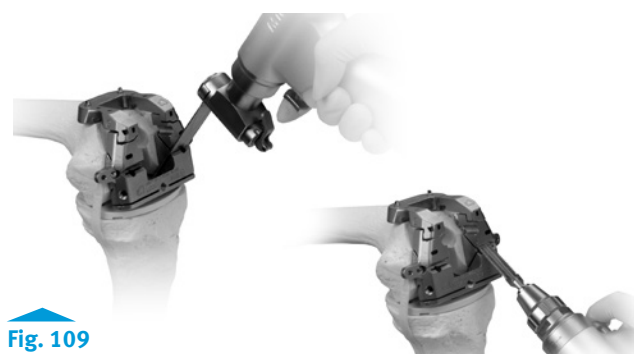

Fig. 109
- Use a reciprocating saw or an oscillating saw to cut the anterior and posterior chamfers (Fig. 109).
- If snap-in distal augments have been used for sizes B, C, and D, be careful to avoid the peg if it enters the slot with the saw blade (Fig. 109).